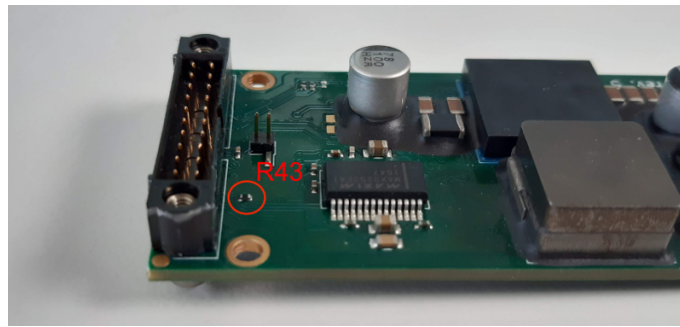

Figure 4.3: Zero-ohm link R43 may be desoldered from the PCB if an isolated communication ground is desired.
*Pin 2 is by default connected to Pin 3 by the zero-ohm resistor R43, so that the whole PCB by default has a single ground. R43 may be desoldered from the PCB to float the communication ground. See Fig. 4.3 for the board location.